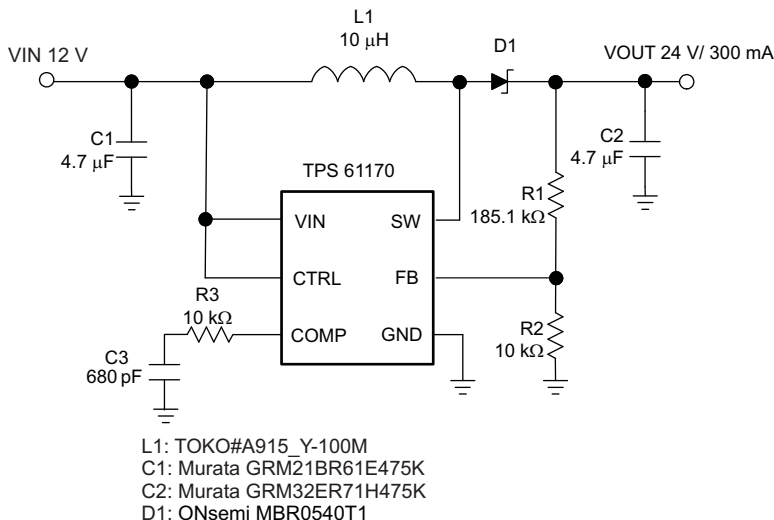
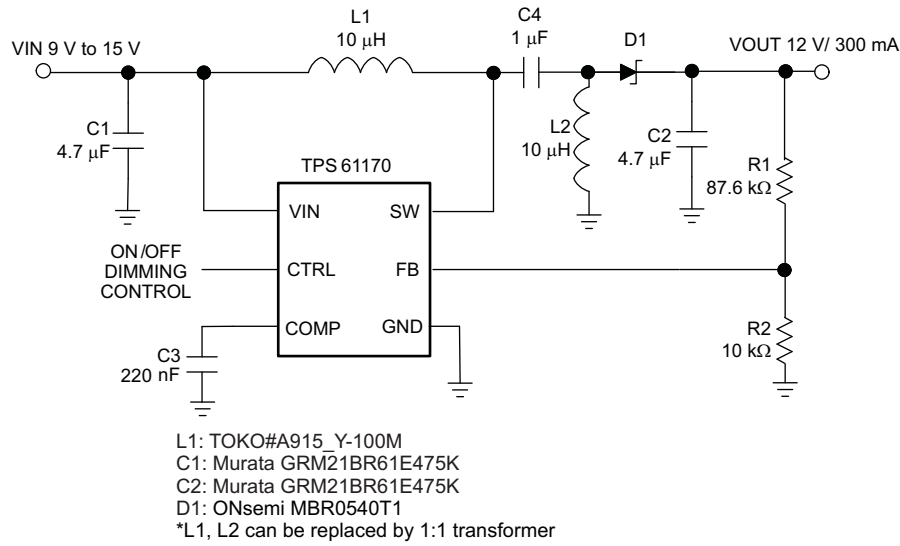
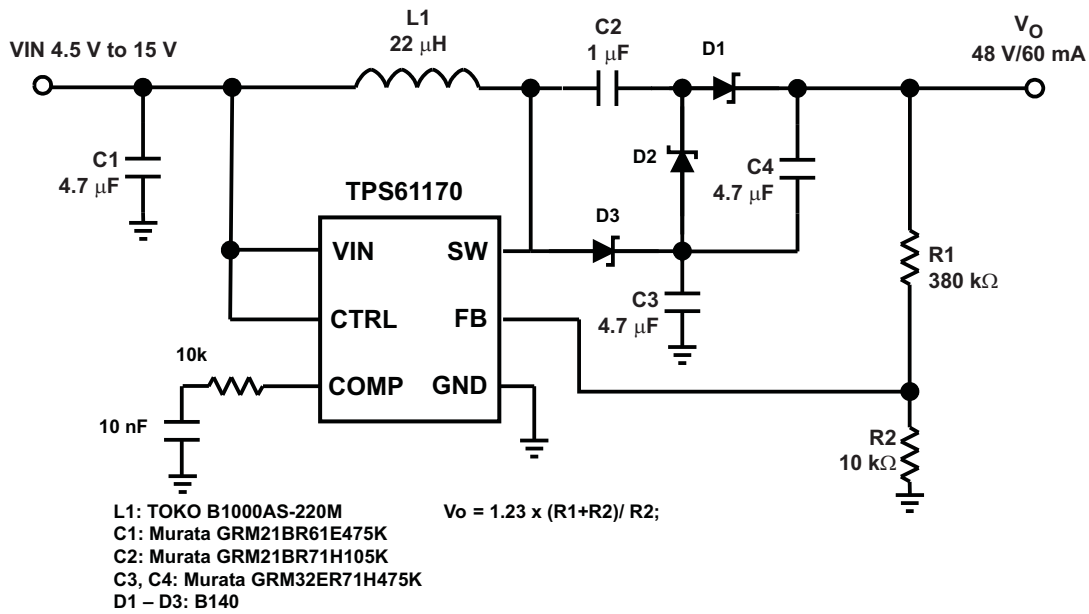

Figure 19. 12V to 24V DCDC Power Conversion
Figure 21. 12V SEPIC (Buck-Boost) Converter
Figure 22. 48V Phantom Power Application Circuit
- Changed C1 part number in Figure 19, Figure 21, and Figure 22 from "GRM188RA475K " to "GRM21BR61E475K" **19**